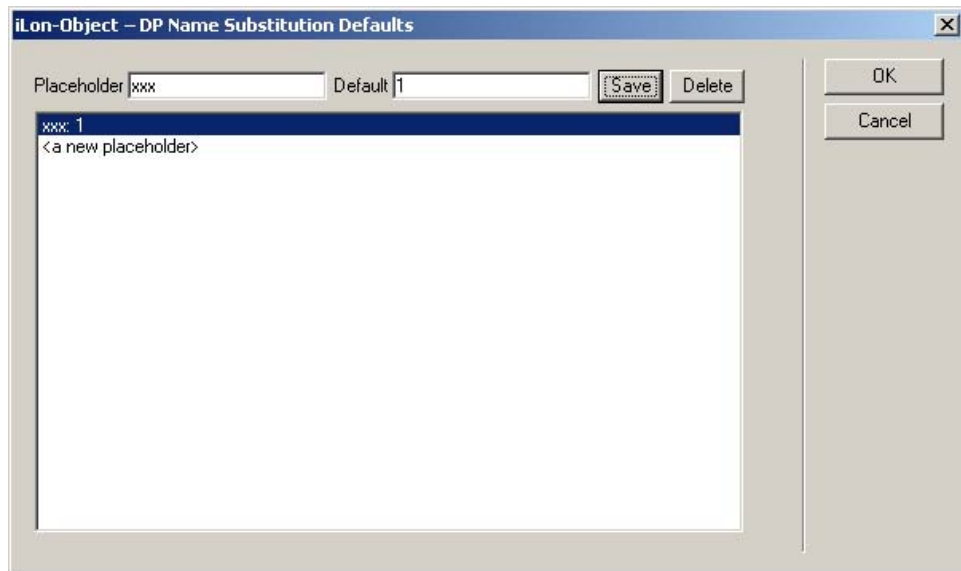

Figure 13.64 Substitution Defaults Dialog
6. Click **Substitution Defaults** to specify the default substitution string for the placeholder. This opens the DP Name Substitution Defaults dialog. Click “xxx” in the middle pane, and then enter **1** in the **Default** box, as shown in Figure 13.64. Click **Save**, and then click **OK**.